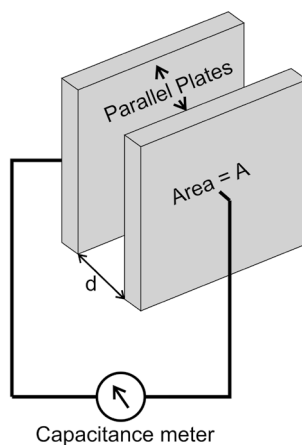

Fig P10.1
4. Make connection as per circuit diagram in Fig P10.1.